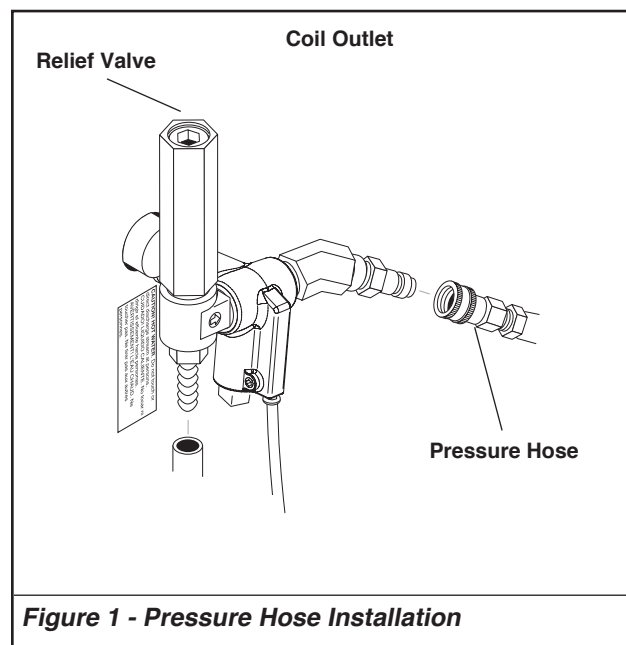

Figure 1 - Pressure Hose Installation
2. Install the pressure hose on the pressure washer as shown in **Figure 1**.
If the pressure washer is to be used in an enclosed area, a flue must be installed to vent burner and engine exhaust to the outside atmosphere. Be sure the flue is the same size as the burner exhaust vent on the pressure washer. See **Figure 1** for location. Poor draft will cause the pressure washer to soot and not operate properly. When selecting the location for installation, beware of poorly ventilated locations or areas where exhaust fans